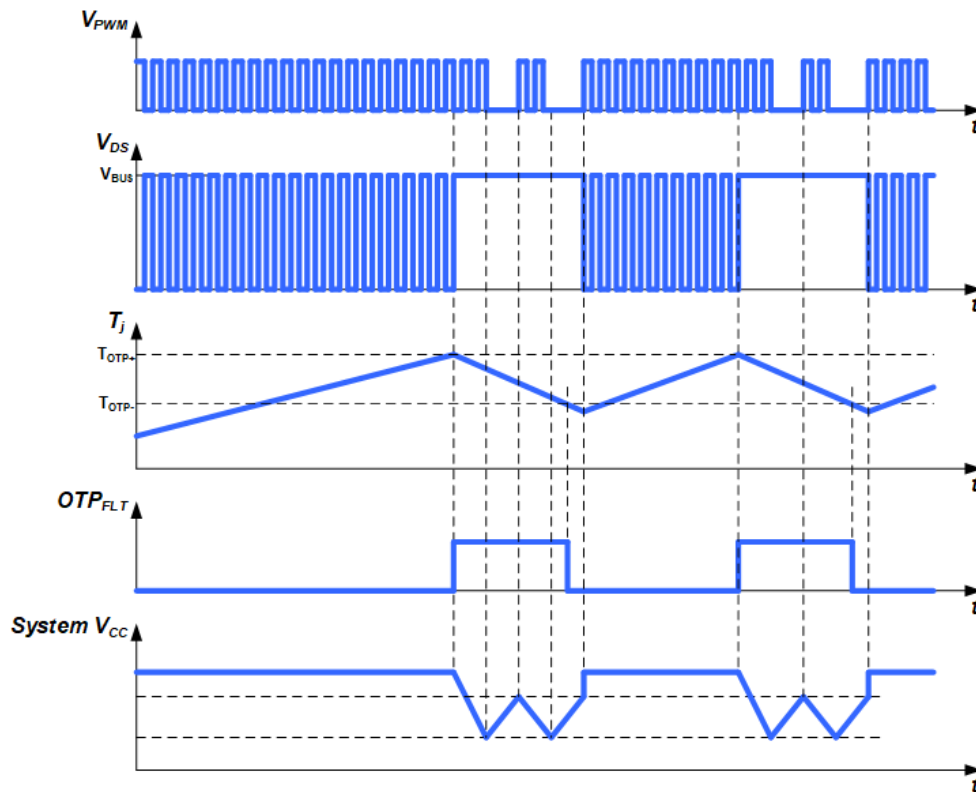

Figure 25. OTP threshold timing diagram
This GaN Power IC includes over-temperature detection and protection (OTP) circuitry to protect the IC against excessively high junction temperatures ( $T_J$ ). High junction temperatures can occur due to overload, high ambient temperatures, and/or poor thermal management. Should  $T_J$  exceed the internal  $T_{OTP+}$  threshold (165°C, typical) then the IC will latch off safely. When  $T_J$  decreases again and falls below the internal  $T_{OTP-}$  threshold (95°C, typical), then the OTP latch will be reset. Until then, internal OTP latch guaranteed to remain in the correct state while  $V_{CC}$  is greater than 5V. During an OTP event, this GaN IC will latch off and the system  $V_{CC}$  supply voltage will decrease due to the loss of the aux winding supply. The system  $V_{CC}$  will fall below the lower UV- threshold of the controller and the high-voltage start-up circuit will turn-on and  $V_{CC}$  will increase again (Figure 25).  $V_{CC}$  will increase above the rising UV+ threshold and the controller turn on again and deliver PWM pulses again.
GaN Power ICs have been designed and tested to provide significant design margin to handle transient and continuous voltage conditions that are commonly seen in single-ended topologies, such as quasi-resonant (QR) flyback applications. The different voltage levels and recommended margins in a typical QR flyback can be analyzed using Figure 25. When the device is switched off, the energy stored in the transformer leakage inductance will cause  $V_{DS}$  to overshoot to the level of  $V_{SPIKE}$ . The clamp circuit should be designed to control the magnitude of  $V_{SPIKE}$ . After dissipation of the leakage energy, the device  $V_{DS}$  will settle to the level of the bus voltage plus the reflected output voltage which is defined in Figure 26 as  $V_{DS-OFF}$ .